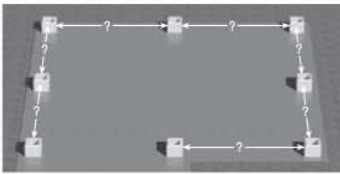

FIGURE 1B
B) Measure the distance between each of the NEWEL POST BOTTOM SECTIONS (FIG. 1B), and cut respective lengths of BALUSTER RAILING to be installed between the NEWEL POST BOTTOM SECTIONS. Add a centered saw kerf to the bottom of the newel post for water drainage.